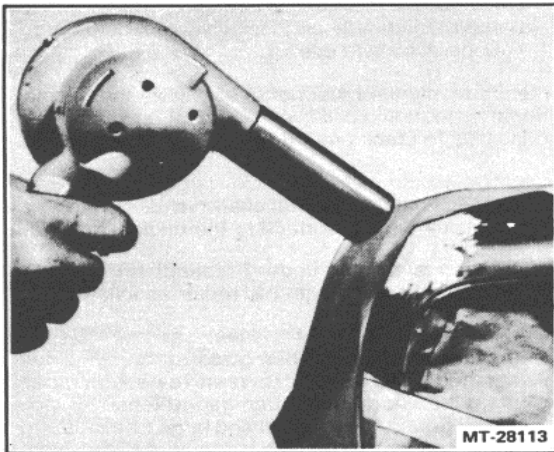

Figure 14. - Shrinking Body Filler
- Pre-shrink filler, using a heat gun or heat lamp (Figure 14). A minimum temperature of 49°C (120°F) is required for shrinkage.